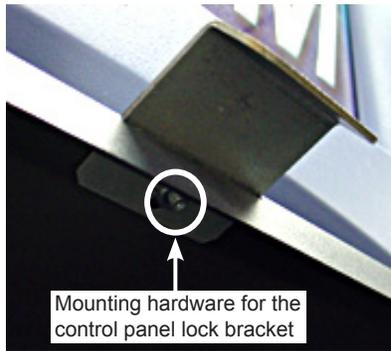

Figure 27. Mounted control panel lock bracket
1. Refer to Figures 27 and 28. Remove the nut that secures the 9100 control panel lock bracket to the upper panel of the top cabinet enclosure. Remove the control panel lock bracket.
1. Refer to Figures 27 and 28. Mount the new 9100 X2 control panel lock bracket over the screw on the upper panel of the top cabinet enclosure and secure it with the nut.